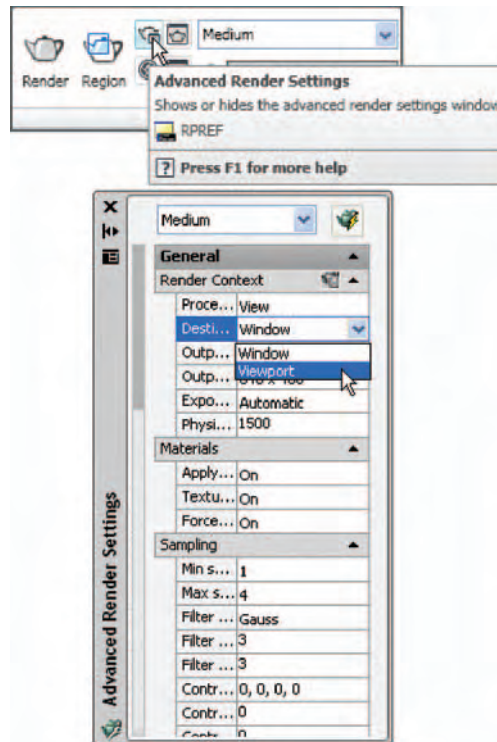

Fig. 15.24 The **Advanced Render Settings** icon and the **Advanced Render Settings** palette
7. *Click* the **Advanced Render Settings...** icon (Fig. 15.24). The **Advanced Render Settings** palette appears.
8. In the palette *click* in the **Render Context** field, *click* the arrow to the right of **Window** and in the pop-up menu which appears *click* **Viewport** as the rendering destination (Fig. 15.24).